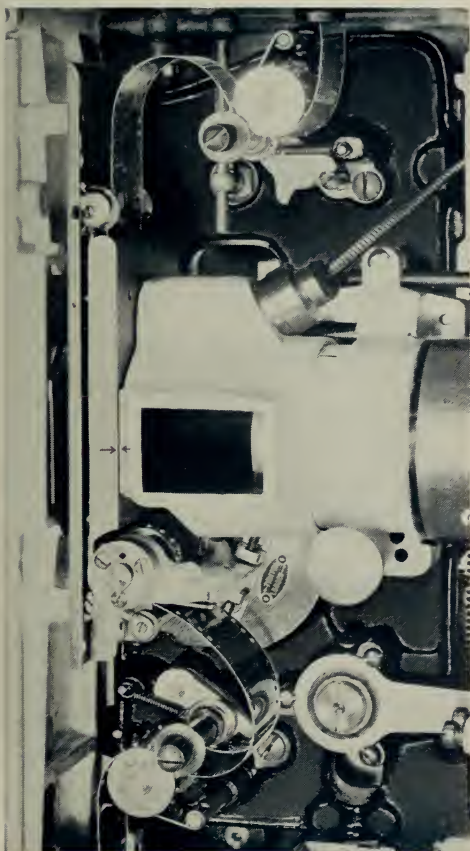

Fig. 8. The Model "K" mechanism, showing proper threading
9. Make about a four inch loop (the size of the loop will sometimes vary a frame or so, depending upon the sound head used), and place the film under the lower guide roller and over the lower feed sprocket (Fig. 8).